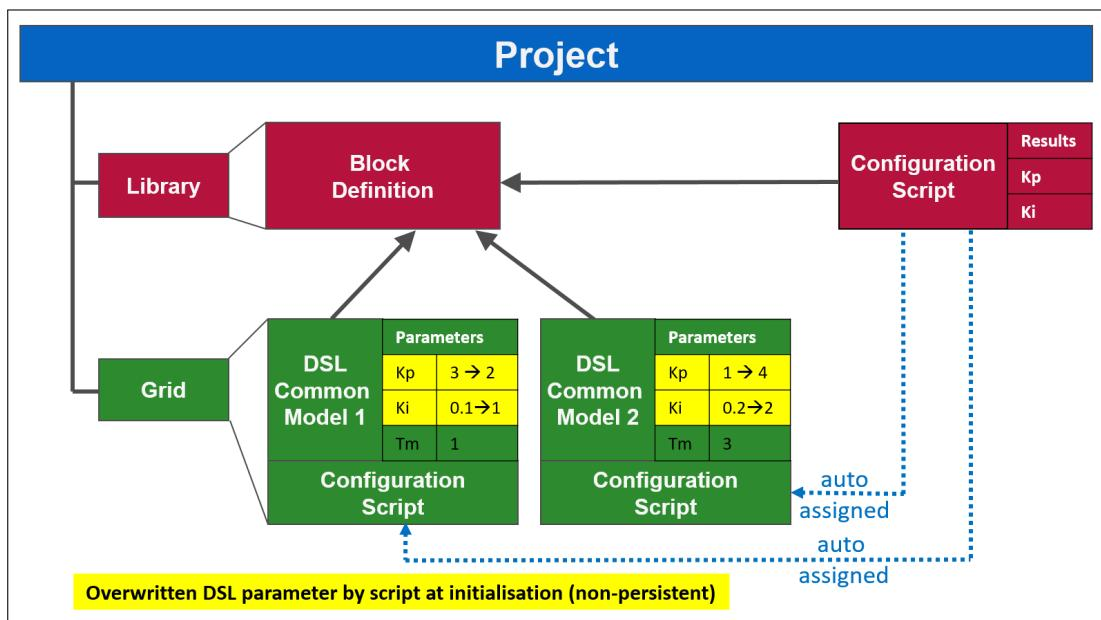

Figure 30.4.1: Configuration Script functionality and inter-operation
The Configuration Script is linked within a DSL model as shown in Figure 30.4.1. It can be set up by following these steps:
- In Figure 30.4.1 above, an example is provided for the operation of a script. In this case, the *Configuration Script* declares two result variables *Kp* and *Ki*. The Block definition contains three parameters: *Kp*, *Ki* and *Tm*. This means that the script will overwrite only two model parameters: *Kp* and *Ki*. In the figure, exemplary values are provided: for “DSL Common Model 1” parameter *Kp* has an initial value of 3 and the script will overwrite it with the value 2. Similarly, parameter *Ki* has an initial value of 0.1 and the script will overwrite it with the value 1. The overwritten values of the parameters will be used for all subsequent calculations (e.g. initial conditions and simulation). Further value modifications of these parameters will still be possible during the simulation as for any other DSL parameter e.g. via Parameter events (*EvtParam*). The script allows assignment of instance-dependent attributes. It implies that, depending on the script’s code, each DSL common model may be configured with individual values for the two parameters. Consequently, the parameters *Kp* and *Ki* of “DSL Common Model 2” will have been assigned different values. Note also that, at the end of the simulation, all modified parameters are automatically set back to their initial values.